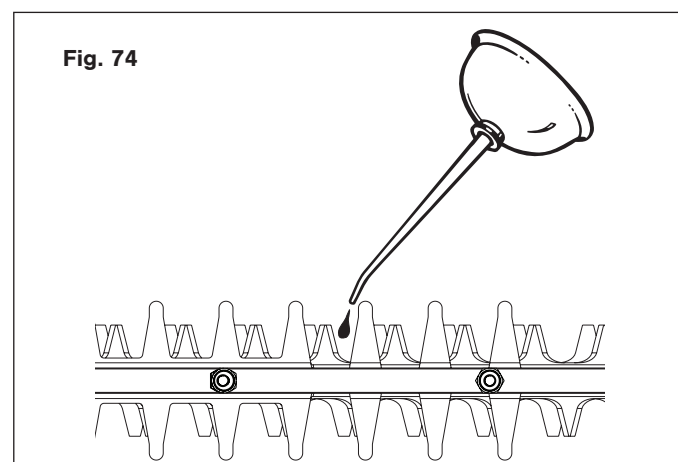

Fig. 74
2. Lay the pole hedge trimmer on a flat surface. Apply lightweight machine oil along the edge of the top blade (Fig. 74).